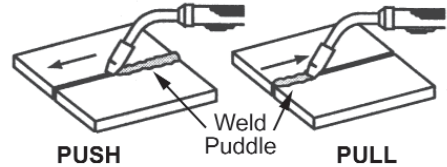

Figure 11. Travel Direction
- 1. TRAVEL DIRECTION** is the direction the gun is moved along the weld joint in relation to the weld puddle. The gun is either **PUSHED** (see Figure 11) into the weld puddle or **PULLED** away from the weld puddle.